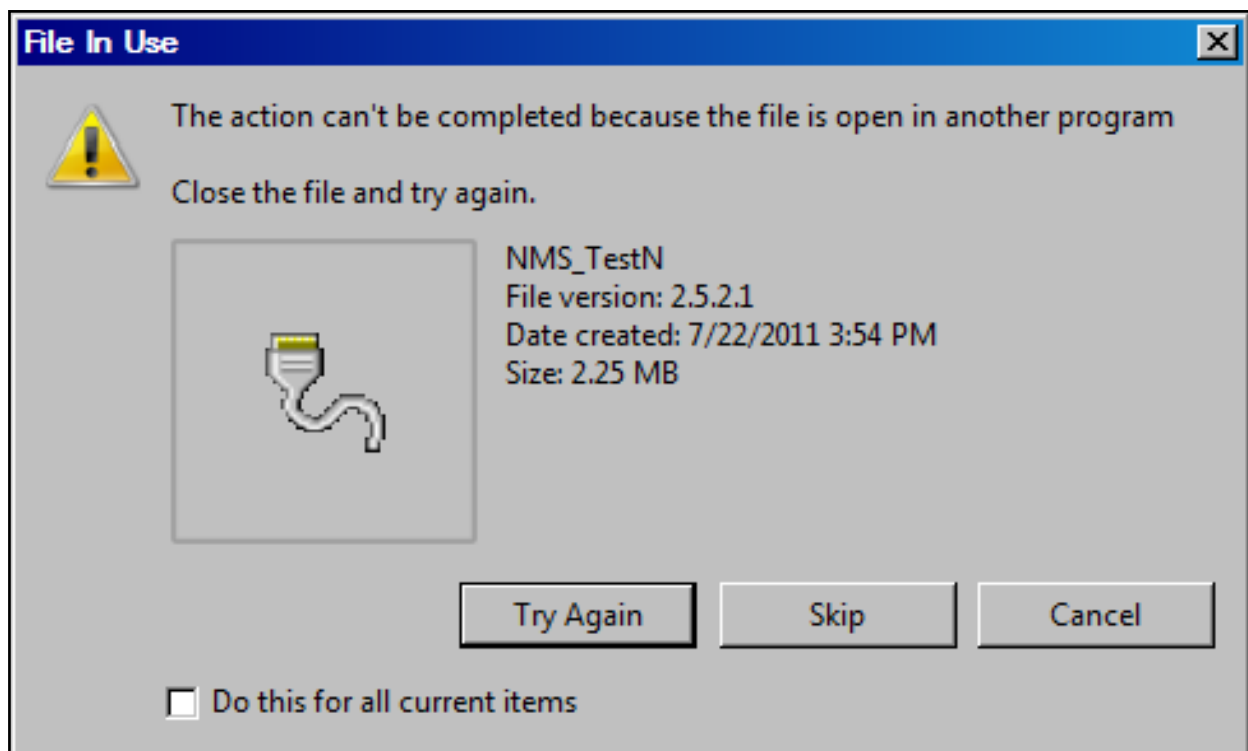

Figure 4-49. NMS Update Fail Error Box
1. An error dialog box will appear, **Figure 4-49**, if the older version of NMS is open and running.